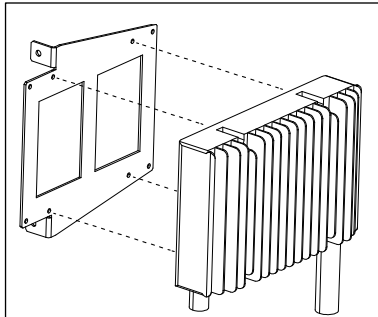

Figure 6
4. Mount the power supplies to the power supply brackets using customer supplied hardware (Figure 6).